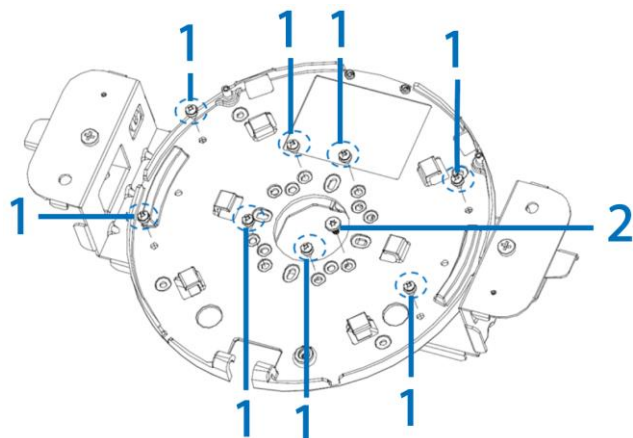

Figure 5
4. Insert the eight screws with washers (1) (Figure 5) into the eight holes and use a screwdriver to securely attach the mount plate to the recessed mount brackets.
- Secure the safety wire screw (2) (Figure 5) using the T20 wrench.